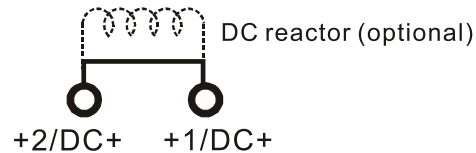

Figure 5-2
- ☑ Use the terminals, as shown in Figure 5-2, to connect a DC reactor to improve the power factor. A jumper is connected to these terminals at the factory. Remove that jumper before connecting to a DC reactor.